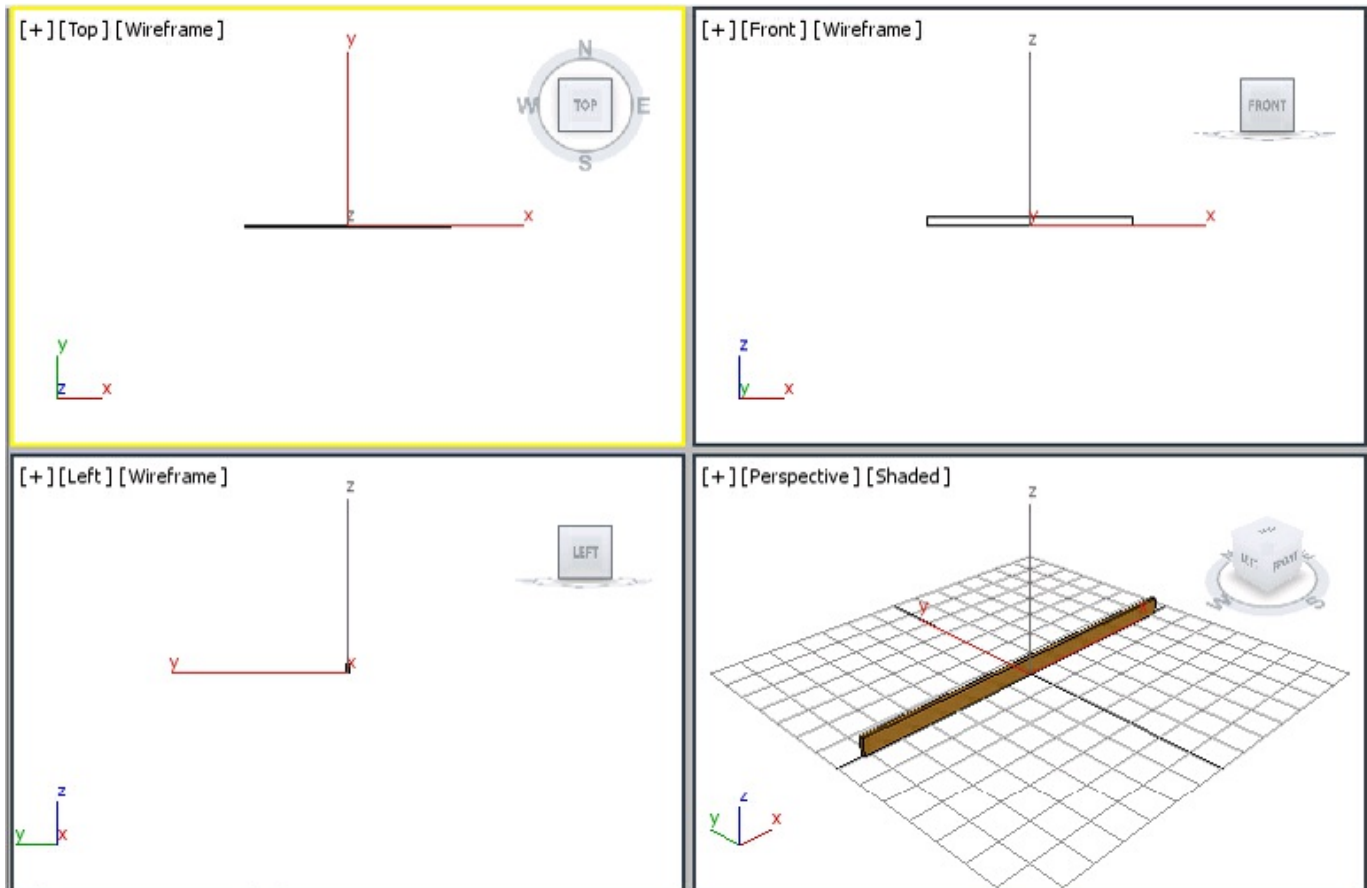

Figure 2-67 A box created
3. Choose the **Create** button from the **Keyboard Entry** rollout; a box is created in the viewports, refer to Figure 2-67